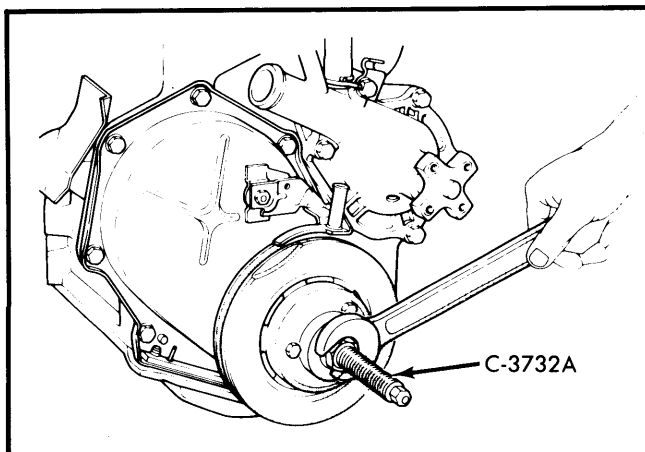

Fig. 12 Removing and Installing Vibration Damper
**Removal** – 1) Drain cooling system and remove radiator from vehicle. Remove drive belts, fan and pulley from water pump hub. Using vibration damper removal tool C-3732A (or equivalent), remove damper. See Fig. 12.
**Removal** – Drain cooling system and remove radiator and fan. Remove power steering crankshaft pulley. Remove vibration damper using puller C-3732A. See Fig. 12. Pry seal out from behind lip, being careful not to damage crankshaft seal surface of front cover.